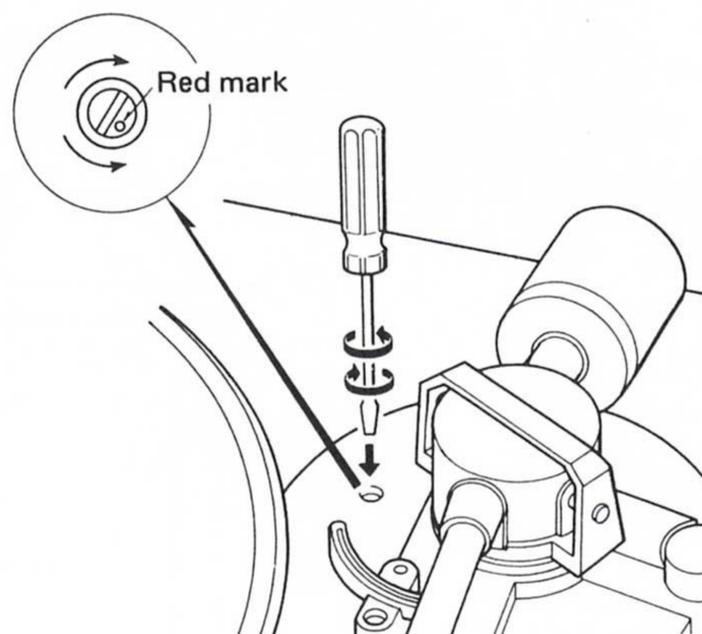

Fig. 6
- (1) The position of LEAD-IN will move toward the inner side of the disc when the LEAD-IN adjustment screw is turned counterclockwise.
- (2) Conversely, when the adjustment screw is turned clockwise, the LEAD-IN position will move toward the outer side of the disc. (Fig. 6)
- (3) When the red mark on the adjustment screw is closest to the platter, the stylus tip will be at the innermost position.